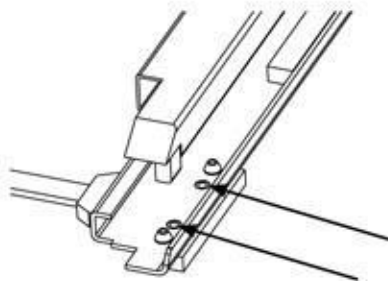

Fig 2
- 3) Assemble the slide assembly to the floor of cabinet using the (8) #6 x 1" Phillips Flat Head Screw (Screw Pack 308 - F1606-22-1). Note that the screws use the inner set of holes on the plastic feet. (See Fig 2)